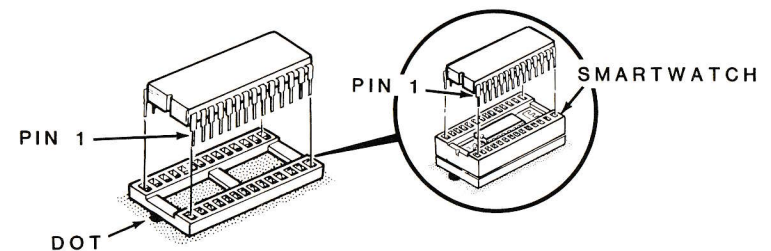

Figure 16. Installing the IC
9. Install the Monitor ROM IC, making certain that pin 1 of the IC is aligned with pin 1 of the socket, as shown in Figure 16. Make sure that all the other pins are aligned and then press the IC into the socket with steady, firm force.
NOTE: If your computer has a SmartWatch installed in the Monitor ROM IC socket, install the new Monitor ROM IC into the top of the SmartWatch, as shown in the inset of Figure 16.